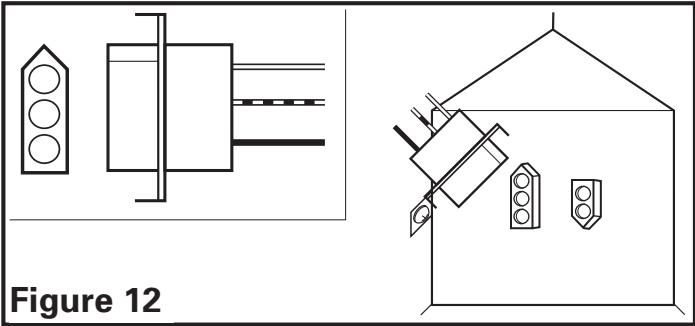

Figure 12
3. Plug the fan's 2 pin quick connect motor cord and the 3 pin quick connect motor cord into the receptacles located on the top of the wire compartment cover. These cords will only fit one way into the receptacles (Figure 12).